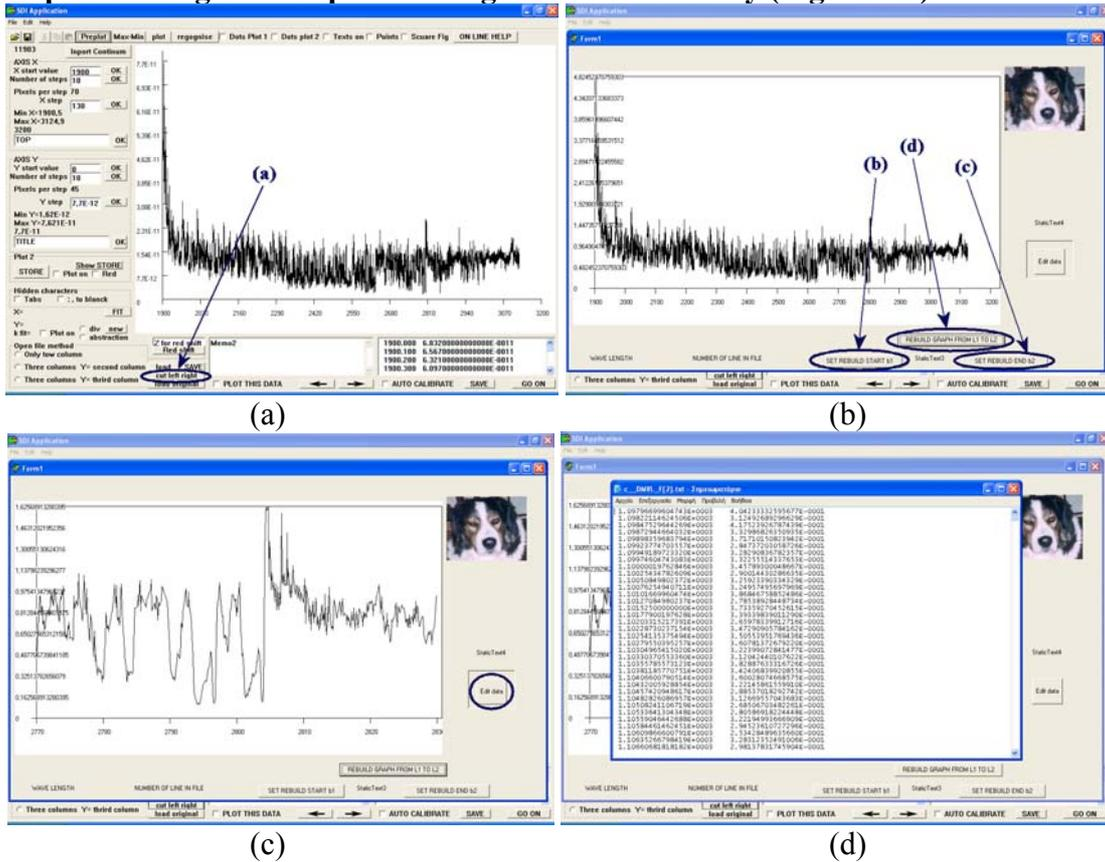

Figure 1.9
Step 5: Cutting off the spectral range that we will study (Figure 1.9)